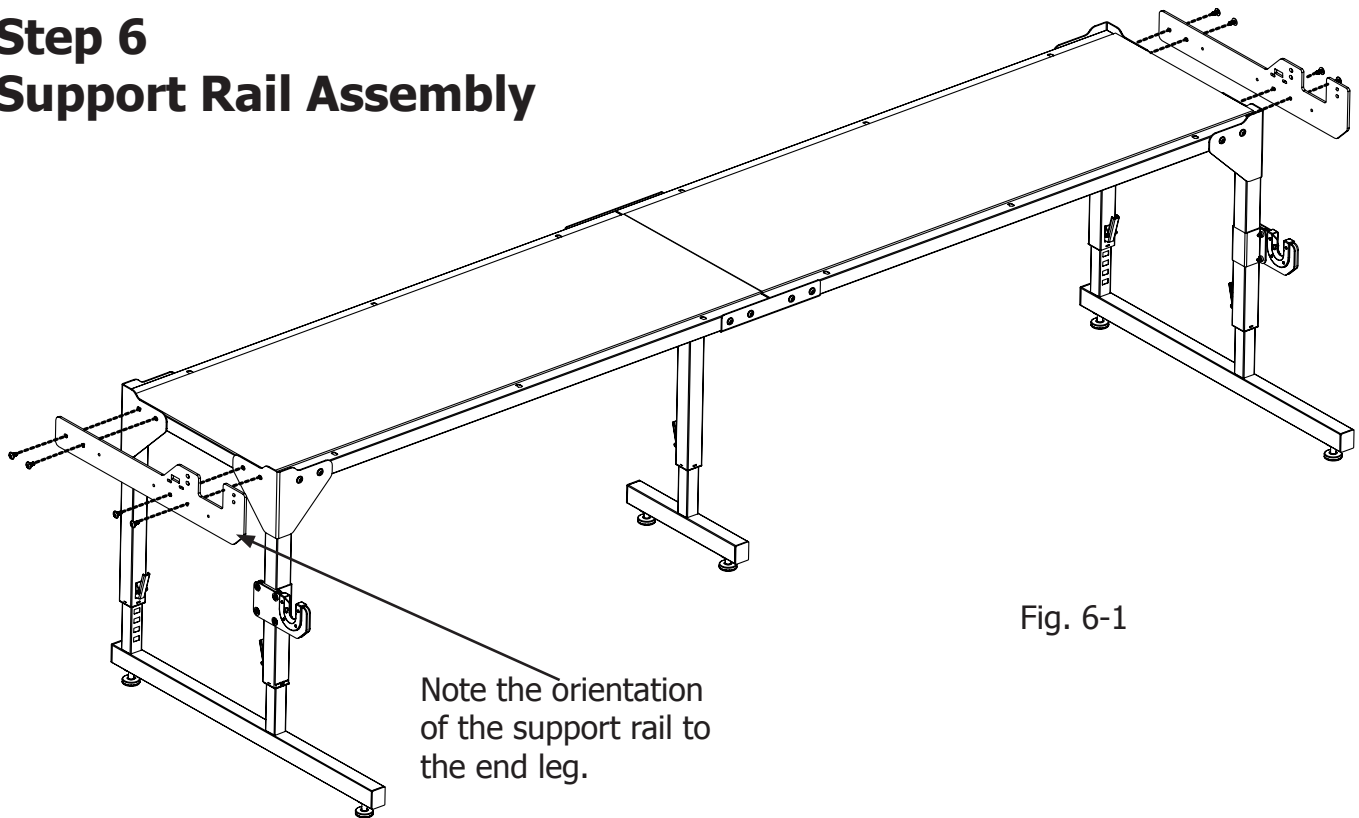

Fig. 6-1
**6-2:** Align the support rail to the end of the frame, orienting the rail as shown in **Fig. 6-1**. Insert the four (4) M8x25mm QF09318-06 through the support rail and into the frame and fully tighten with the 5mm Allen wrench. (**Fig. 6-1**)